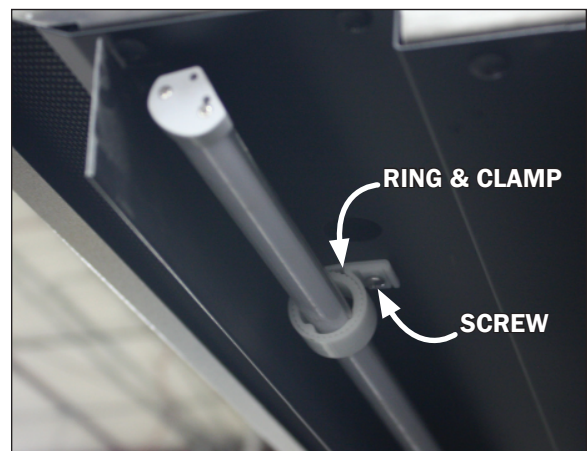

Fig. 8 LED light & ring / clamp
2. Remove the screws from the light clamps (Fig. 8) while keeping ahold of the light. Once the screws are removed the light rod will come away from the case with the clamps still holding to the light.
3. Remove the closed clamps and inner rings (Fig. 8) by un-
3. Line-up the closed clamps (Fig. 8) and light rod with the existing screw holes on the case and re-attach.